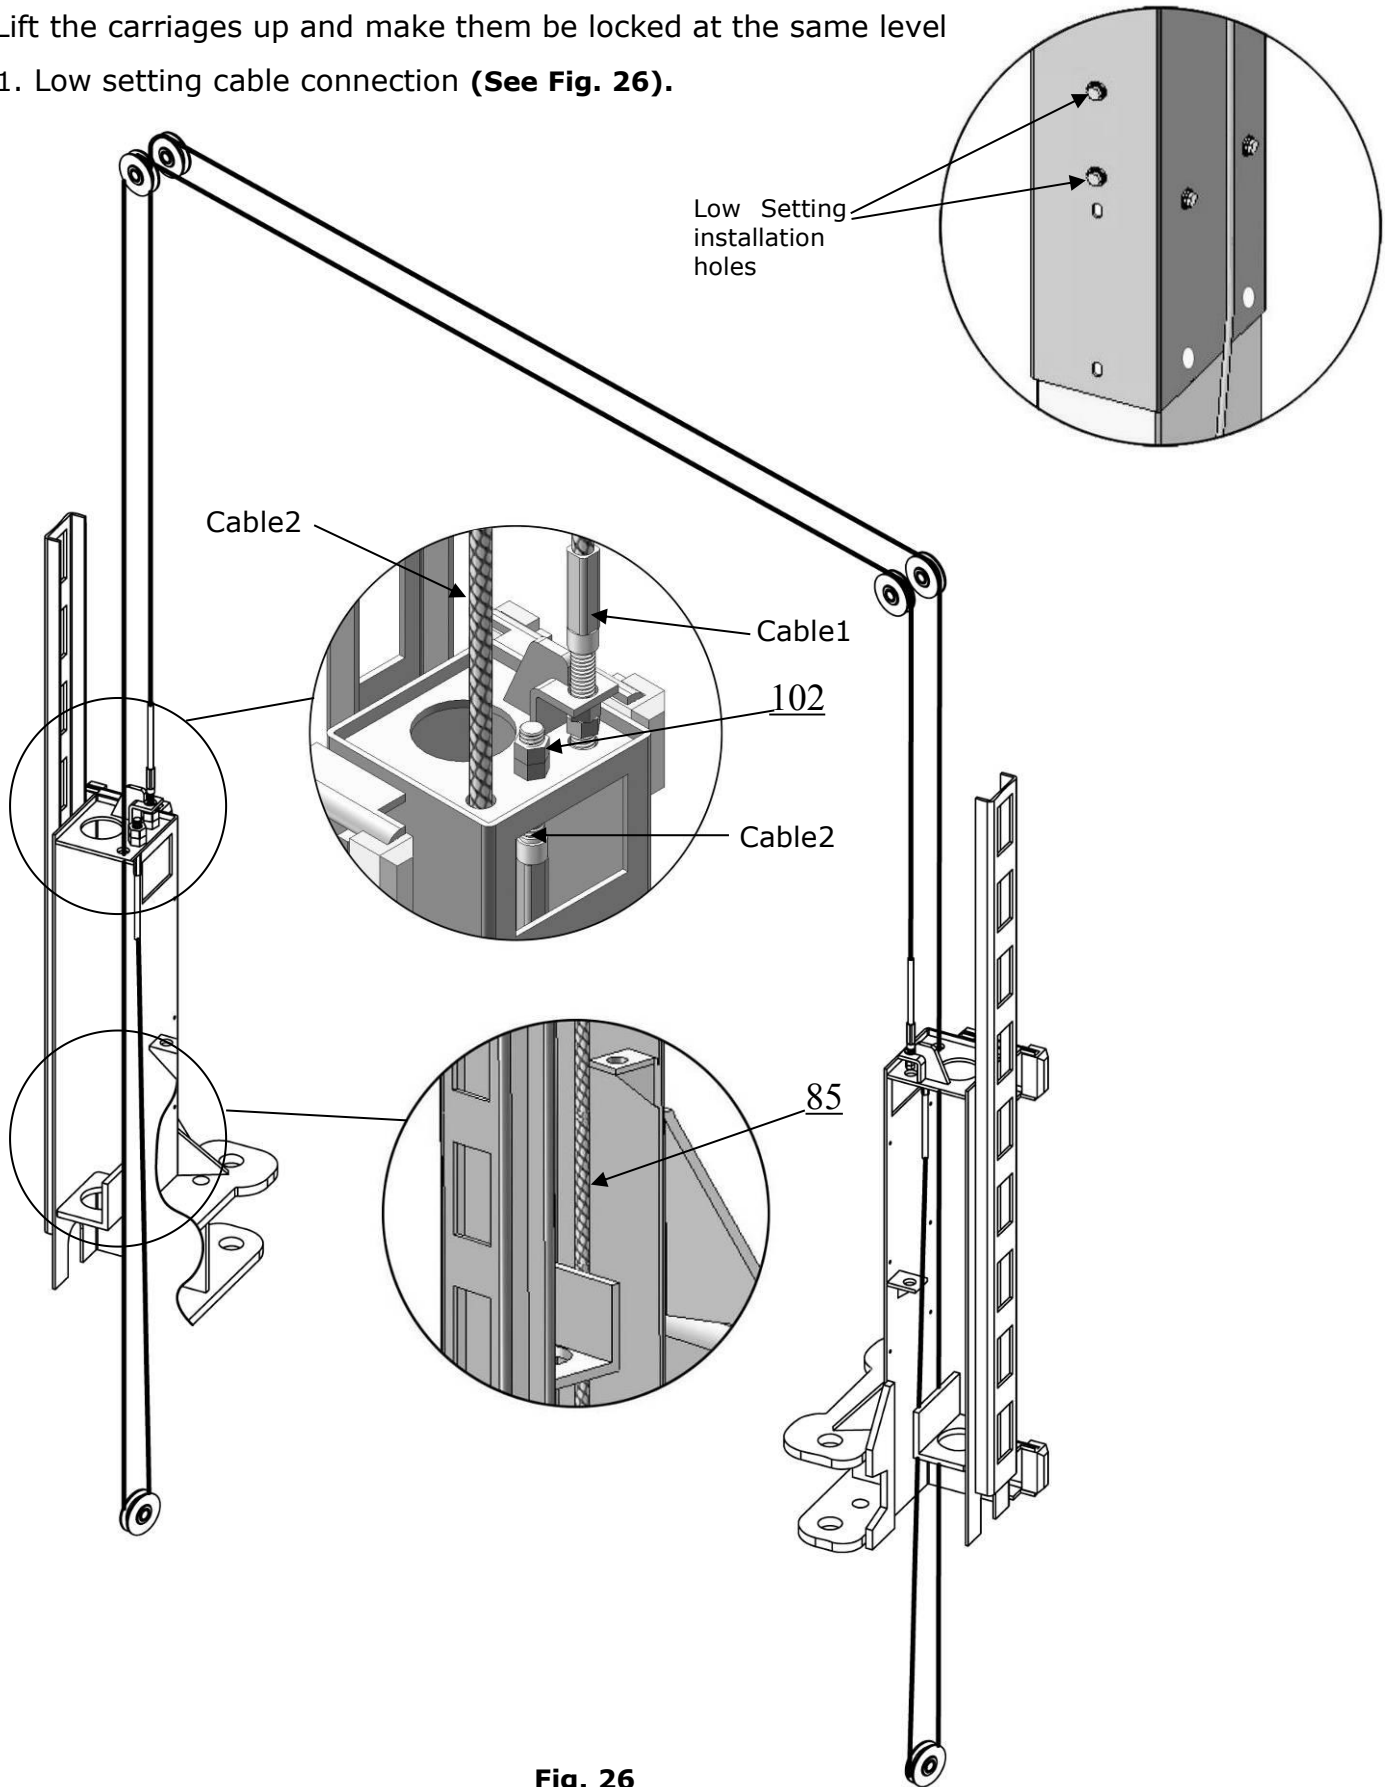

Fig. 26
1. Low setting cable connection (**See Fig. 26**).